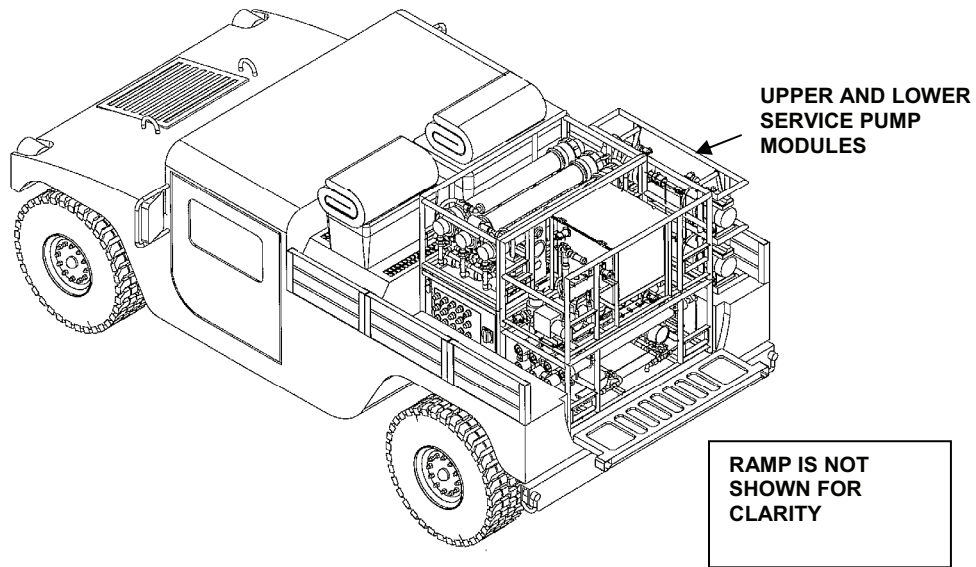

Figure 7. Offloading Service Pump Skids.
- Offload the upper service pump module from the right side of the HMMWV cargo compartment. See Figure 7.